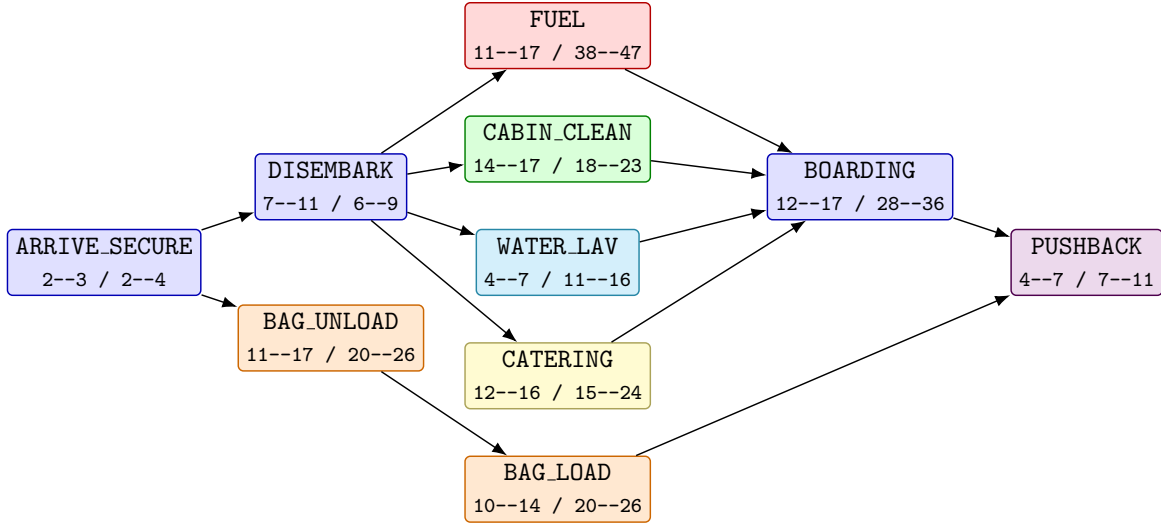

Figure 1: **Domestic passenger profile.** Durations in minutes.
Every flight's task list is fixed by its *service profile*, namely the combination of carrier, aircraft size, and operation type. There are three structurally distinct task graphs, one per profile family. They are drawn in Figures 1, 2, and 3. Each task node is colour-coded by the team kind it requires: `ramp_team` `baggage_team` `fuel_team` `catering_team` `cabin_clean_team`
- **C8.** Whenever a flight has two tasks whose kinds are in a precedence relation (see Figures 1, 2, and 3), the predecessor must finish before the successor starts.